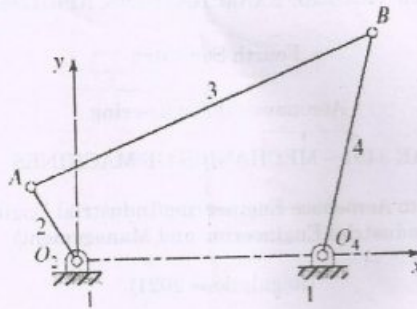

Fig. 1
11. (a) For the four-bar linkage in the arbitrary posture shown in Fig. 1, derive expressions for the relationships between the angular velocity of the input link 2 and the angular velocities of the coupler link 3 and the output link 4.